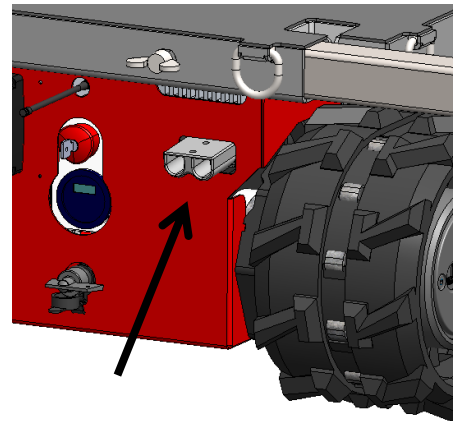

Figure: 17
- The large plug of the converter is plugged into the socket on the Tracked Carrier (*figure 17*).